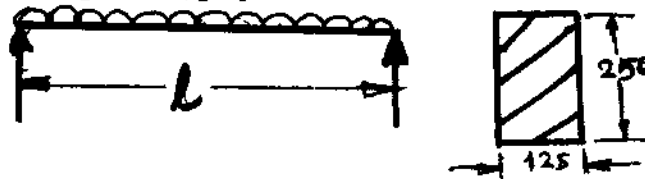

Fig Q6 (b)
- b. Determine the maximum allowable span of length L for a simple beam as shown in Fig. Q6 (b). The rectangular beam of cross section 125 × 250 mm is subjected to a udl of 8 kN/m. Allowable bending stress = 6 MPa. (10 Marks)